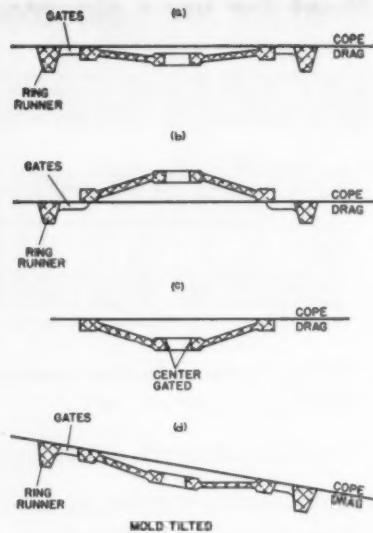

Fig. 3—Flow lines may develop in central part of casting gated as in a. To avoid, use b, c, or d.
The article written on gating and risering of magnesium is very interesting, and although I have had very little experience with this metal, it is my understanding that it should be poured with as little agitation as possible, the same as aluminum and bronze. Fig. 3 of this article (*Gating and Risering of Magnesium*, by H. E. Elliott; in two parts, April and May, 1954, AMERICAN FOUNDRYMAN) shows four different suggestions or methods of pouring a certain casting. To me, the drawing (B) would do the most satisfactory work with the least agitation. Pouring down grade, as at (D) is poor practice in any metal, and usually shows lines of the path the metal has taken from the gates to reach the lowest part of the mold, and many times there is a cold shut along the path the metal has passed.
In his reference to Fig. 3 and his discussion of it, he emphasizes the value of filling the mold by up-hill flow, and avoiding pouring down grade. This is exactly the point that was intended to be conveyed by Fig. 3 and I regret that somehow the point apparently wasn't clear. Items (B), (C), and (D) are all intended to result in up-hill flow. In diagram (D), the metal is introduced into the ring runner at the right, the casting fills from right to left, and the degree of tilt is sufficient so that the right hand wall will not slope down hill.